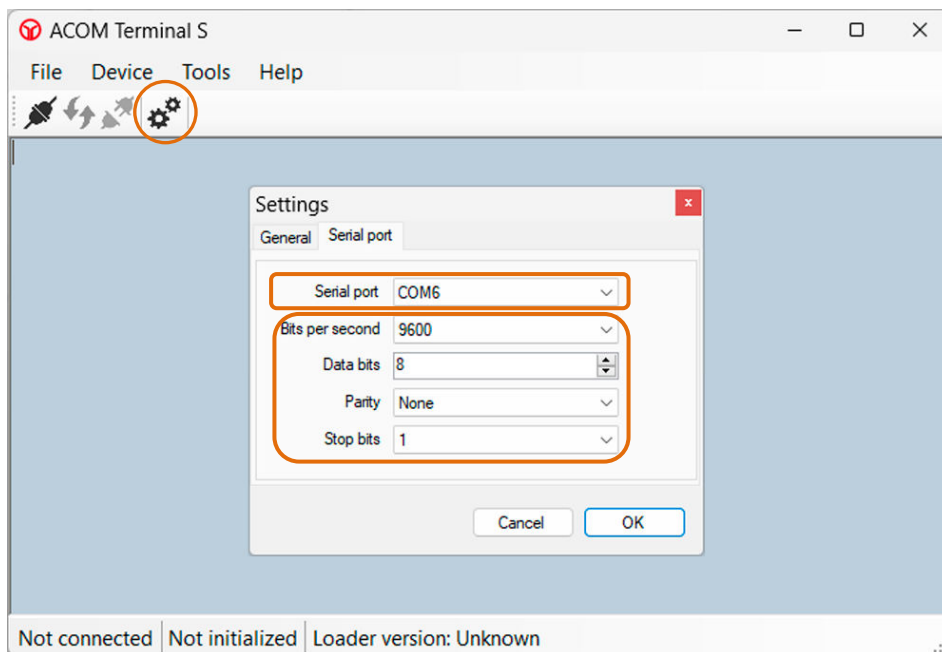

Figure 7-11 | Terminal S - Tools -> Setting -> Serial port menu
- In the **Settings** window -> tab **Serial port**, configure the settings as shown in Figure 7-11 | Terminal S - Tools -> Setting -> Serial port menu. For actual serial port number see STEP 1 – RS-232 Interface Settings on your PC: